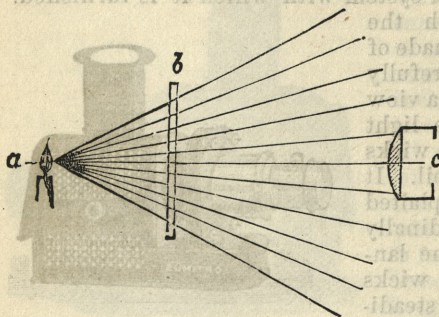
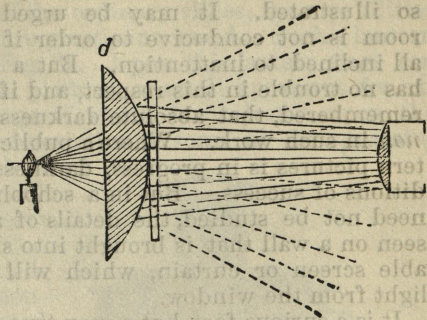

Fig. 6.
Fig. 7.
The important part which the condenser plays in the optical arrangement of the magic lantern is clearly shown by the diagrams Fig. 6 and Fig. 7.
In Fig. 7 we have the same general arrangement of parts, only with the condensing lens (D) inserted; and it will be at once seen what a very important change in the conditions under which the picture is shown has been thus effected. We now see the meaning of the term "condenser," for the rays which were formerly spread out and wasted—their direction is here indicated by the dotted lines—are now *condensed* and bent forward in such a manner that the whole bundle of them is driven through the objective lens.